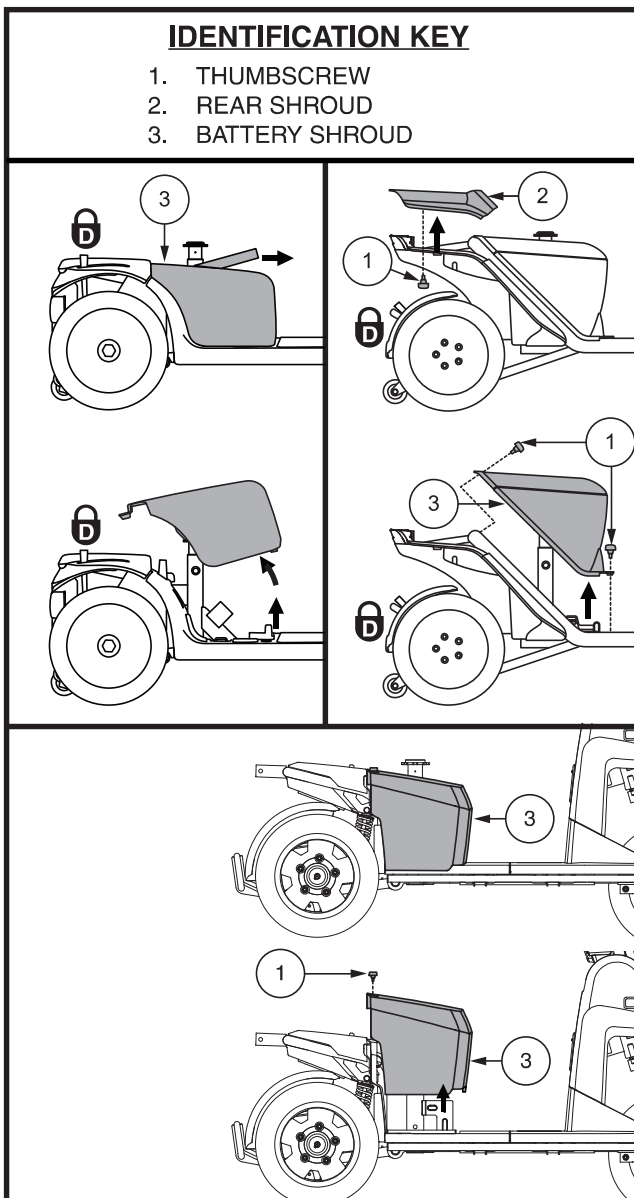

Figure 15. Battery Shroud Removal/Installation
1. Remove the seat and battery shroud. See figure 15.
- a.) For models 614 and 714, remove the rear shroud by removing the two (2) thumbscrews that secure it to the scooter frame, and then lifting the shroud straight up and off of the scooter. See figure 15.
- b.) For models 614 and 714, remove the battery shroud by removing the four (4) thumbscrews that secure it to the scooter frame, and then lifting the shroud straight up and off of the scooter. See figure 15.